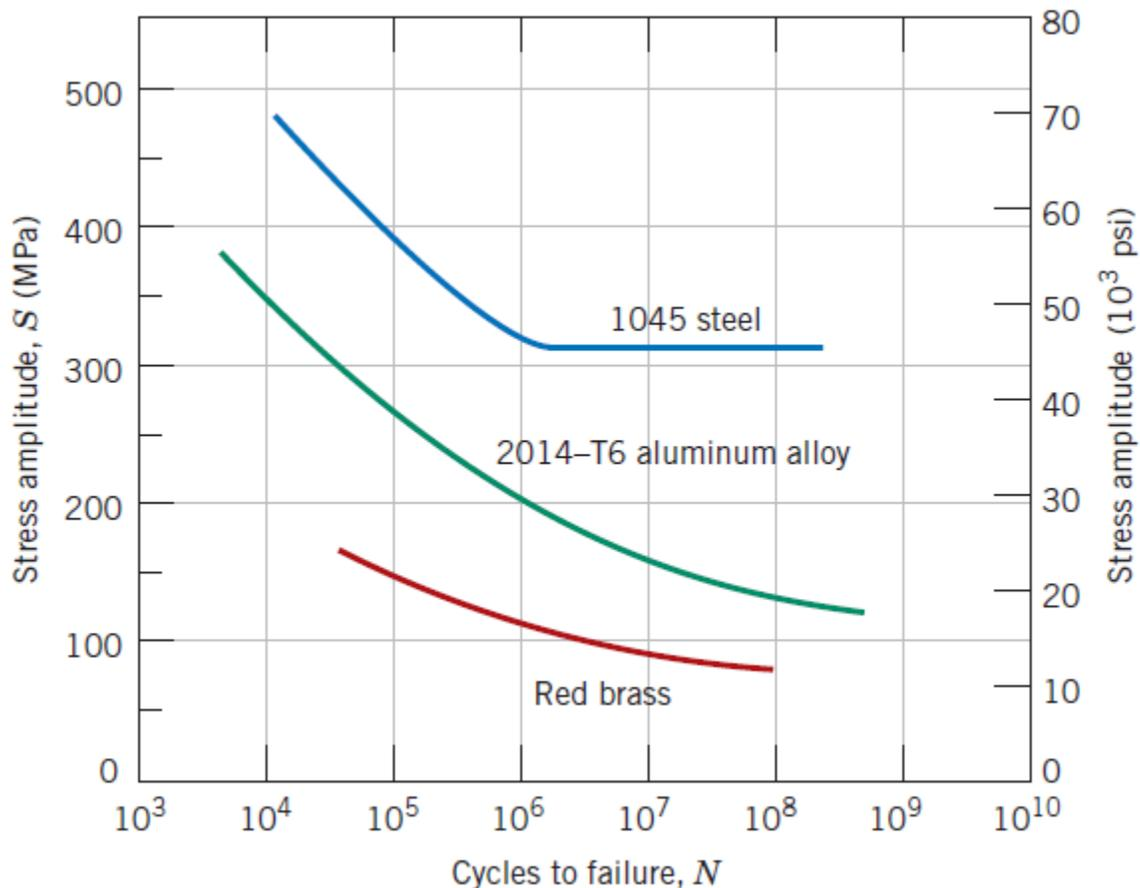

Fig.1 Stress magnitude S versus the logarithm of the number N of cycles to fatigue failure for red brass, an aluminum alloy, and plain carbon steel
2. A cylindrical 1045 steel bar (fig 1) is subjected to repeated compression-tension stress cycling along its axis. If the load amplitude is 66,700N (15,000lbf), compute the minimum allowable bar diameter to ensure that fatigue failure will not occur. Assume a safety factor of 2.0.
3. A 6.4 mm (0.25 in.) diameter cylindrical rod fabricated from a 2014-T6 aluminum alloy (Fig 1) is subjected to reversed tension compression load cycling along its axis. If the maximum tensile and compressive loads are +5340N (+1200 lbf) and -5340 N (-1200 lbf) respectively, determine its fatigue life. Assume that the stress plotted in (Fig 1) is stress amplitude.